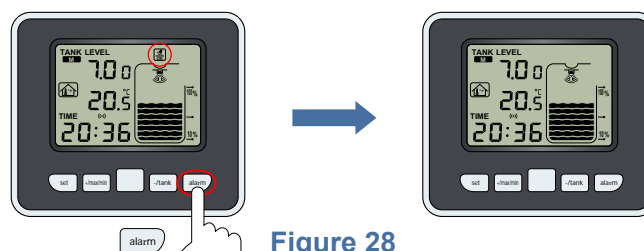

Figure 29
In default setting the alarm buzzer is enabled. To disable the alarm buzzer press ALARM key for 5 seconds. The alarm icon  will disappear. Press ALARM key 5 seconds again to enable alarm buzzer. The alarm icon will appear (Figure 29).